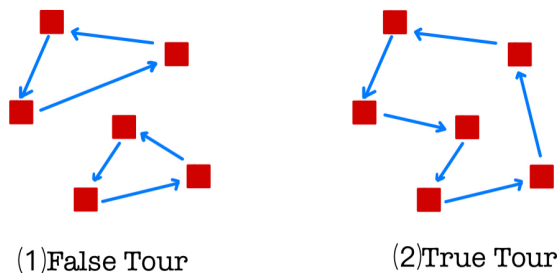

Figure 3: Explanation of Constraint 3 in TSP
- The third constraint means the final tour can't be the union of small subtours, as illustrated in Fig. 3. If the tour consists of subtours, as shown in Fig. 3(1), then  $\sum_{i \in Q} \sum_{j \neq i, j \in Q} x_{ij} \geq |Q|$ . Otherwise,  $\sum_{i \in Q} \sum_{j \neq i, j \in Q} x_{ij} \leq |Q| - 1$ , shown in Fig. 3(2).